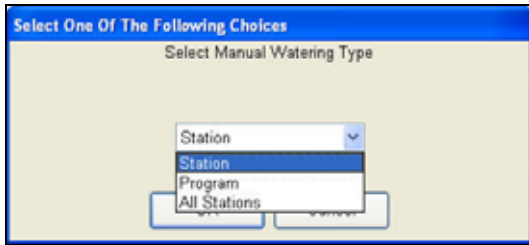

Figure 7.2.2
1. Click on the **DOWN** arrow to view the different screen selections. Click **OK** (Figure 7.2.2).